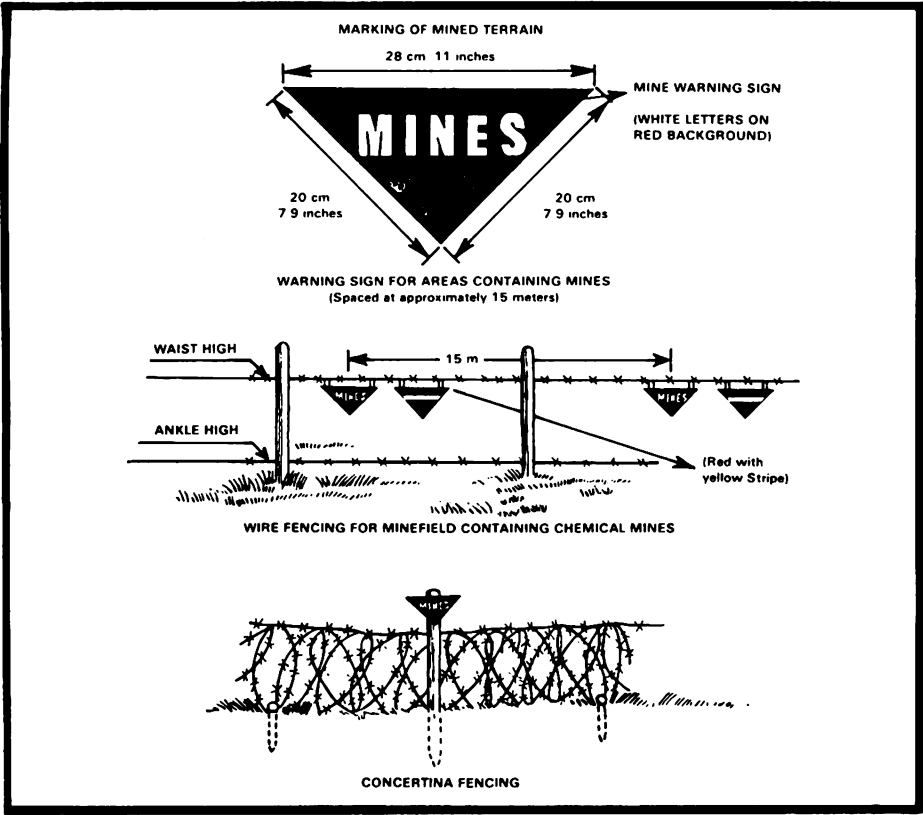

Figure 1. Minefield marking fence.
(1) Lane entrances and exits, as well as passage lanes, should be marked with signs to indicate the safe and dangerous sides respectively.
(2) During darkness or poor visibility, lane markers should be illuminated.
(3) Type of fencing and illumination of minefield lanes in the forward battle area will be at the discretion of the responsible commander.
(4) In non-English-speaking areas, signs in the native language must also be posted. (See figure 1 and 2.)